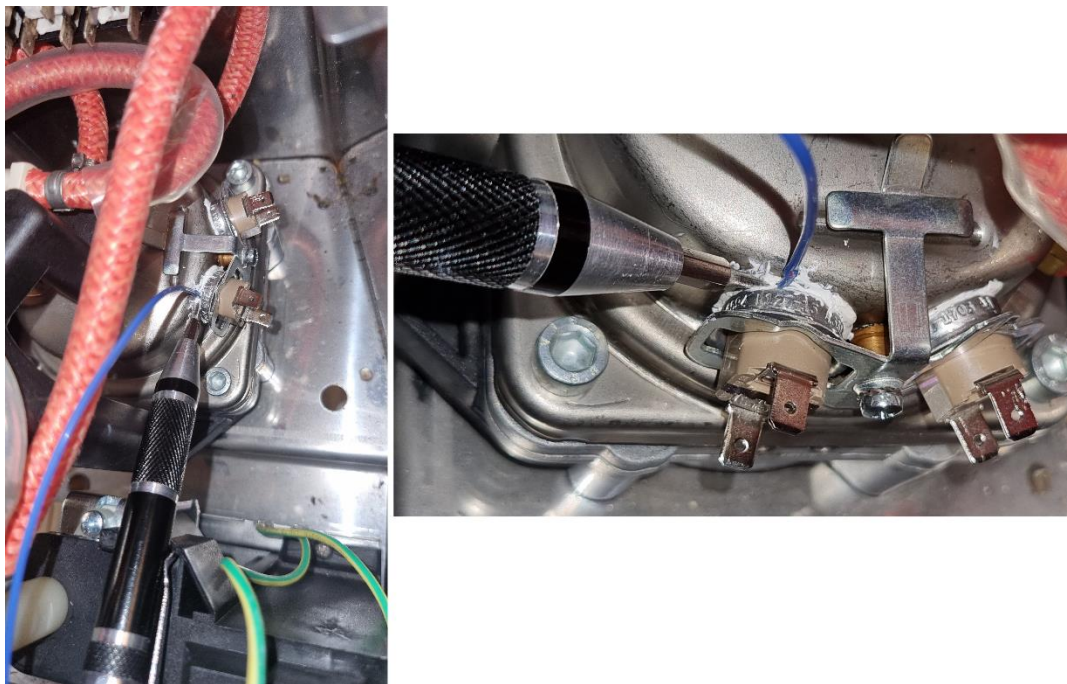

Fig. 8.2
- Take the type-k temperature sensor from the package and make connection between the main board (fig.8.1) and the boiler. The sensor will be installed between the boiler and one of the 2 original thermostats (fig. 8.1). Use a right screwdriver to make little space then insert the sensor. (fig. 8.2)